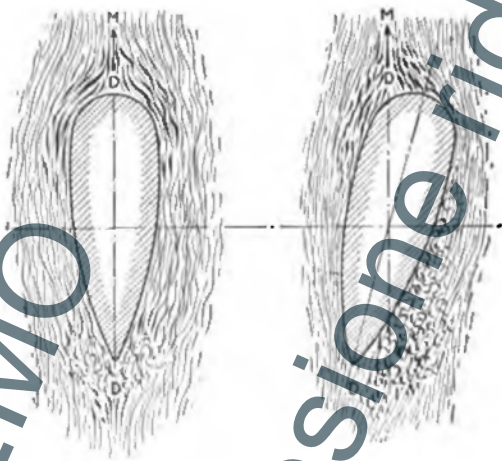

FIG. 14.—Air currents around struts.
5. There is still one other reason why the airplane may be directionally bad, and that is *distorted surfaces*. The planes are "cambered," or curved to go through the air with the least possible resistance. If, perhaps owing to the leading edge, spars or trailing edge getting bent, the curvature is spoiled, that will change the amount of drift on one side of the airplane which will then have a tendency to turn off its course. See the struts in Fig. 14.